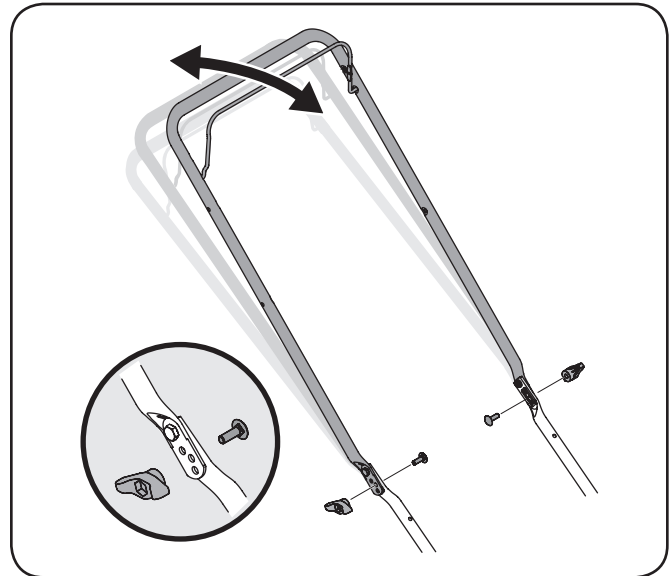

Figure 3-13
1. Remove wing nuts and carriage bolts from handle. See Figure 3-13.
2. Position the handle in one of the three positions that is most comfortable. See Figure 3-13 inset.